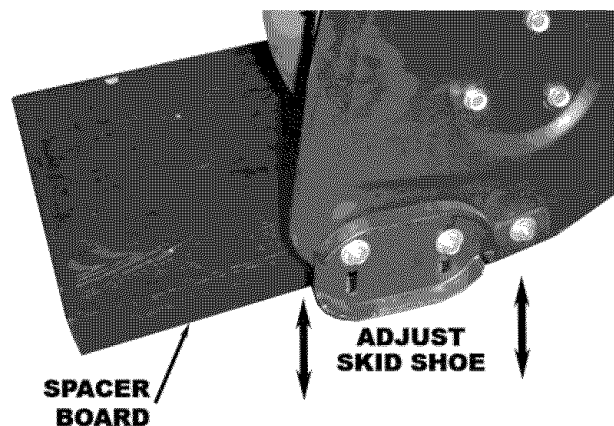

Figure 7- Adjusting Skid Shoes
2. Place a spacer board on the ground underneath the auger shield between the skid shoes. The thickness of the board should be the same as the height above the ground you wish to raise the auger shield to. The skid shoes should not touch the board (see figure 7).
2. Move the choke lever to the closed position as shown in figure 7 (NOTE: If you have just been using the snow thrower and the engine is still warm, keep the choke in the “open” position).